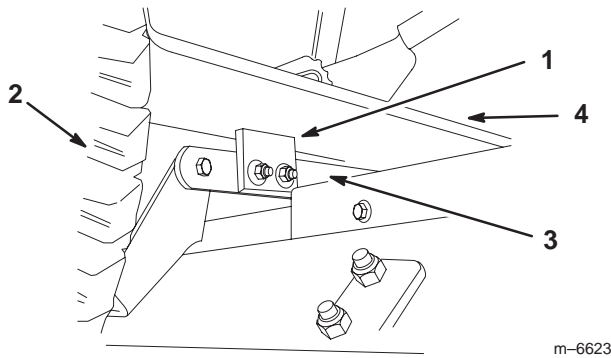

Figure 18
- Raise the attachment lift lever or electric lift all the way up. Check if bumpers, on rear of mower draft bars contact under footrests (Fig. 18).